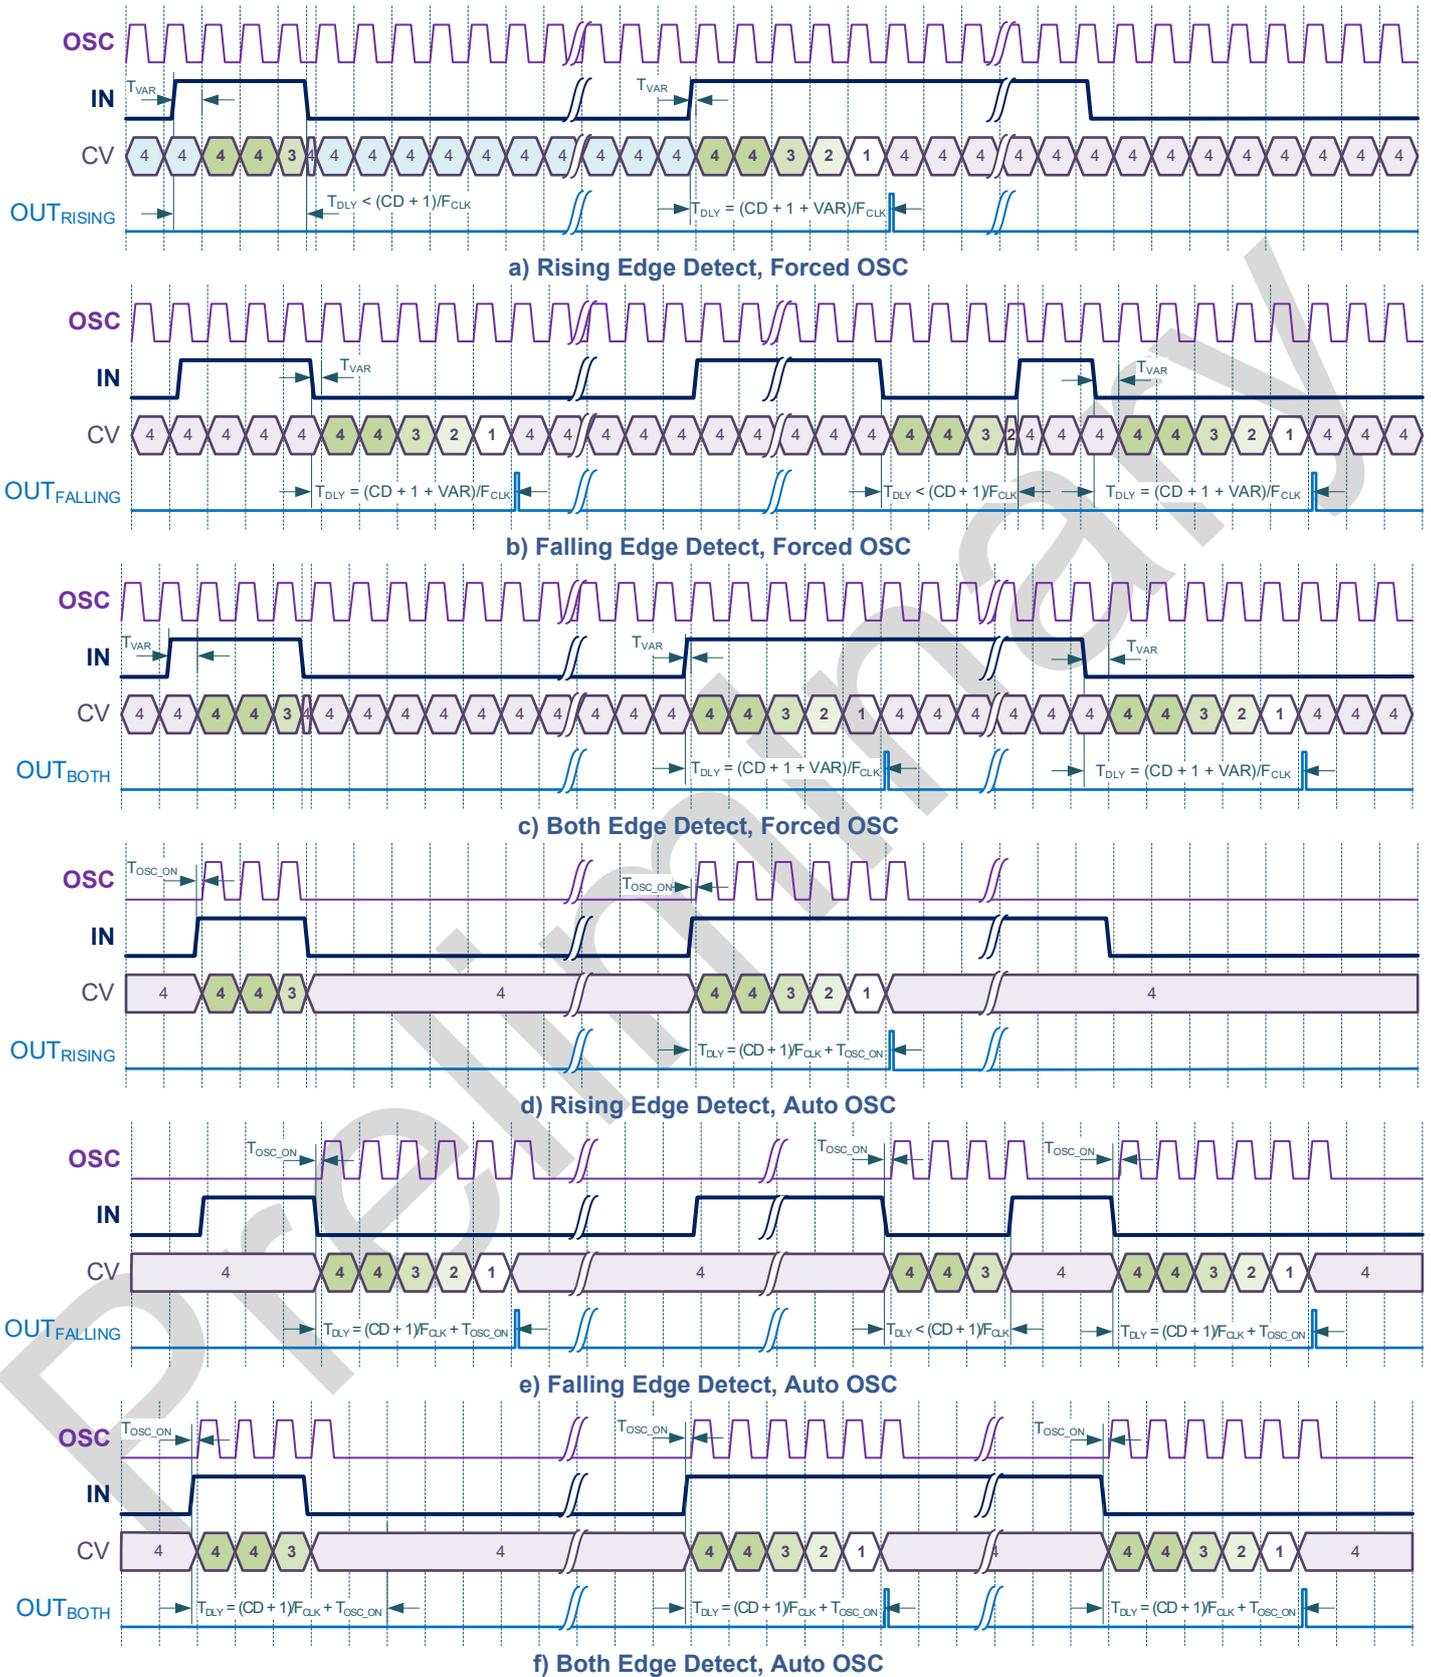

Figure 8.9. Delay Edge Detect Mode (Control Data: 4)
In the Delayed Edge Detector mode the TMR generates delayed short high level pulse (for non-inverted polarity) when detecting the respective selected edge event (rising edge, falling edge, both edges). The delay time is determined by the Control Data, input clock signal and selected prescaler value. The timing diagrams of this mode is shown in the Figure 8.9.
- Delayed Edge Detector (Figure 8.9)